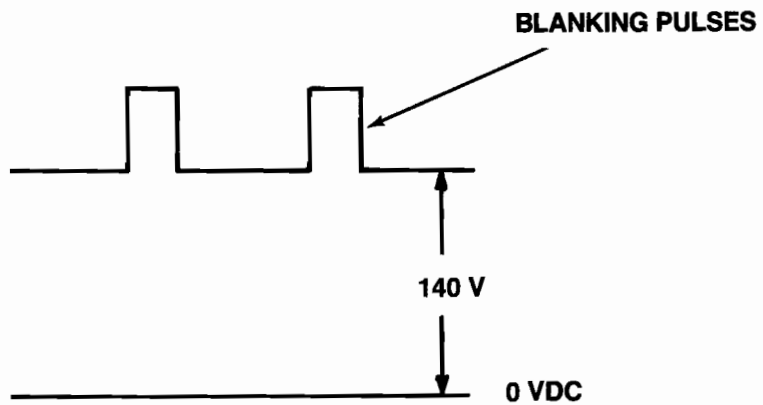

Figure 10 Waveform for Black Level Voltage
This control has been set at the factory to 140 VDC (see Figure 10) and should not need further attention. However, when a game is connected to the video display, you may have to slightly adjust the screen control to obtain the proper black level (the black portion of the picture just extinguished).
- 5.5 Adjust the black level control (VR201) of the lead color gun to obtain the waveform shown in Figure 10.